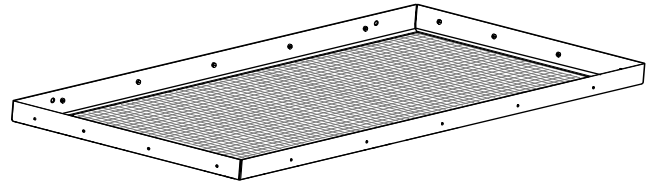

FIG.2
3. To install the front baffle (Fig. 2), slide the baffle vertically up the front of the smoke chamber.
5. Remove the glass from the door frame. **(FIG.2)**
3. Remove the 10 top and bottom screws and the 8 side screws (**FIG. 2**).